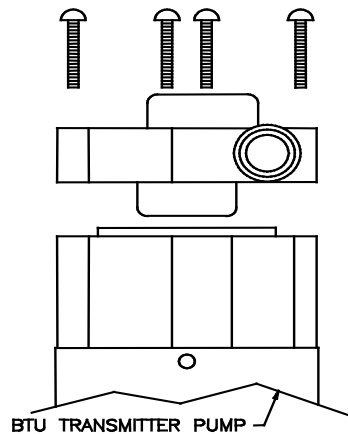

Figure 6.3
8. Remove the 4 screws holding the BTU transmitter pump to the impeller housing. Remove and set the pump aside, (See Fig. 6.3).